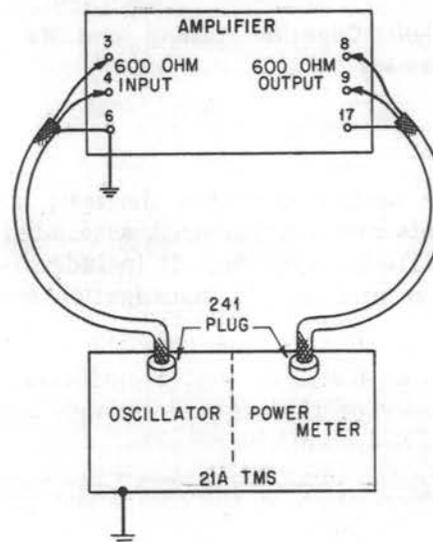

Fig. 1 — Gain and Gain-Frequency Testing Arrangement
2.11 Procedure: Energize the amplifier and the transmission measuring set and adjust the oscillator for an output of -40 dbm at 1000 cycles. Connect the oscillator to the 600-ohm input circuit (terminals 3 and 4) of the amplifier. (See Fig. 1.) Adjust the measuring set power meter for an input level of +20 dbm and